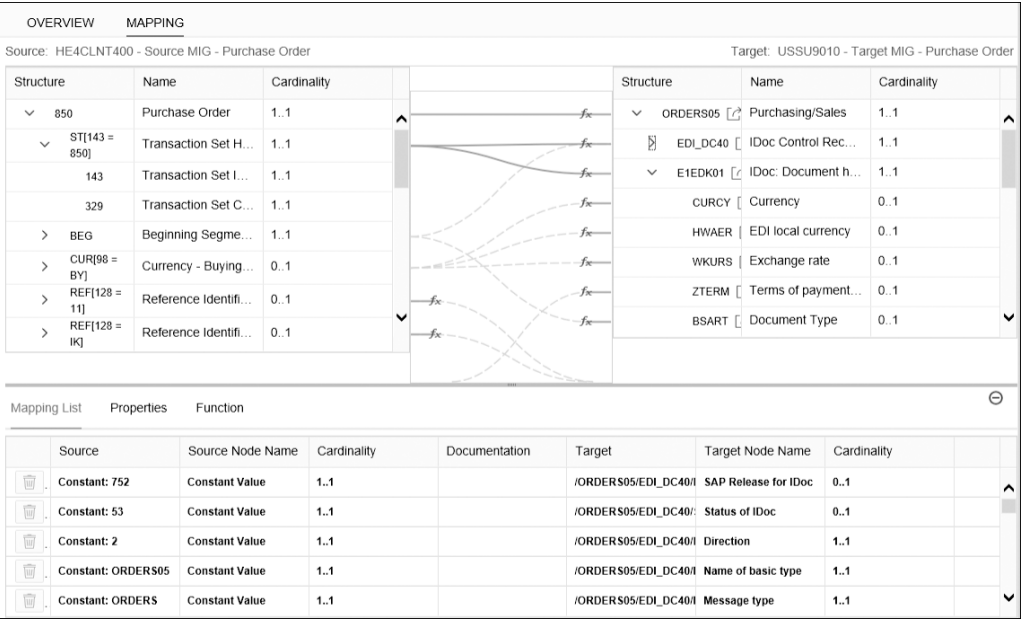

Figure 7.18 Creating Mapping between Source and Target MIGs
6. Select the **MAPPING** tab to open the mapping editor. In this view, you map the fields from the source MIG to the target MIG. As depicted in Figure 7.18, draw a line from **Source** field to **Target** field to create the mapping between the fields. In the **FUNCTION** tab, you can define functions for the mapping of specific fields, and the defined code snippets are then generated into the XSLT mapping. You can also use the proposal service by selecting **Get Proposal** to get some mappings proposed in the table. We won't describe how to map all fields step by step because this would fill pages. Instead, we point you to the downloadable XSL transformation file provided with the book downloads (www.sap-press.com/4650).